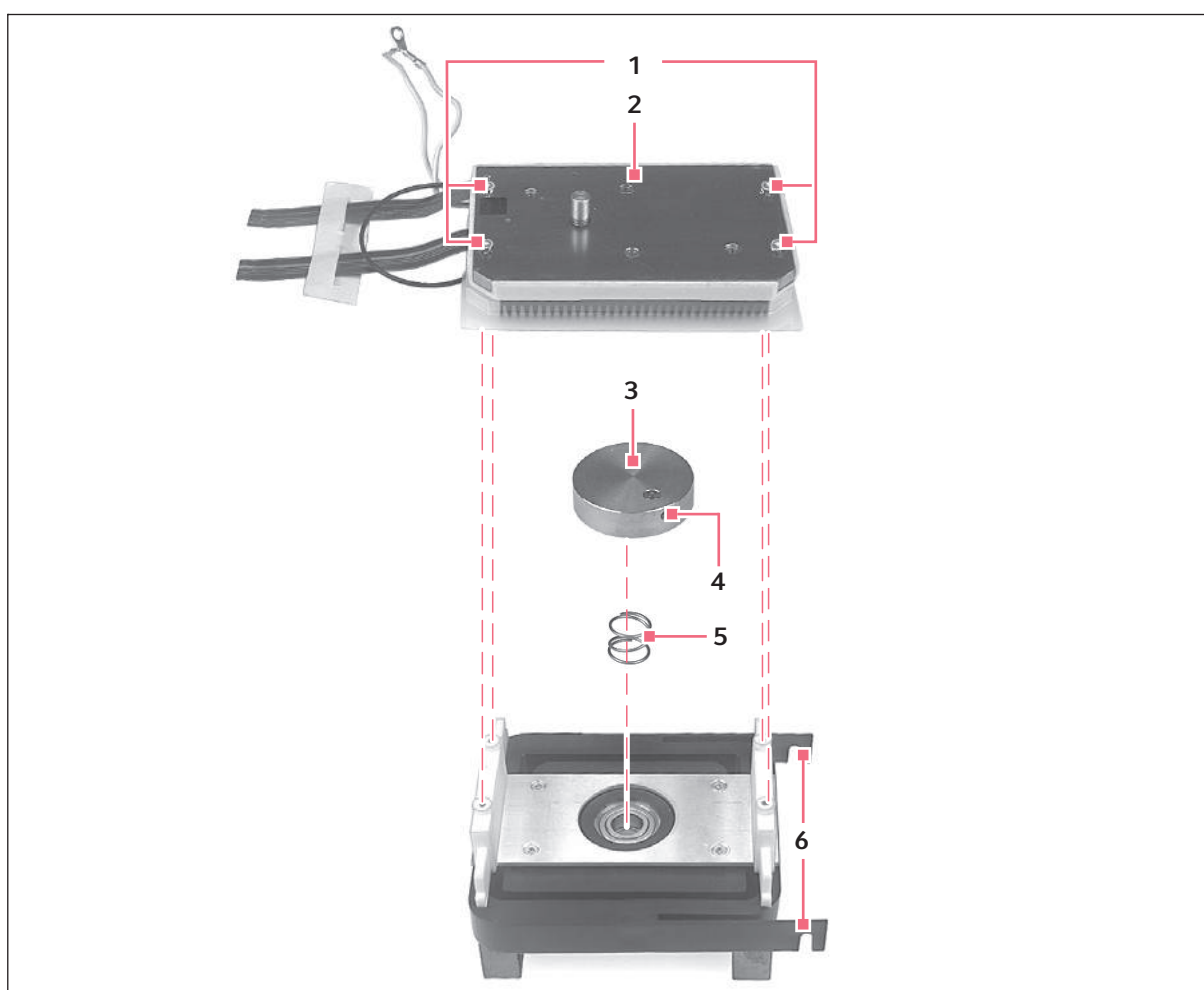

Fig. 6-7: Oscillating frame
1. (see Fig. 6-7 on p. 33) Loosen the Allen screw of the imbalance disk and remove the imbalance disk together with the spring.
2. Remove the clamping screws (see Fig. 6-7 on p. 33) from the oscillating frame.